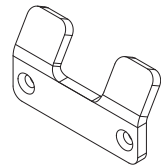

Fig. 4
- Restraints that have a lip deflector with only two holes (Fig. 4), will use the new debris guard assembly.